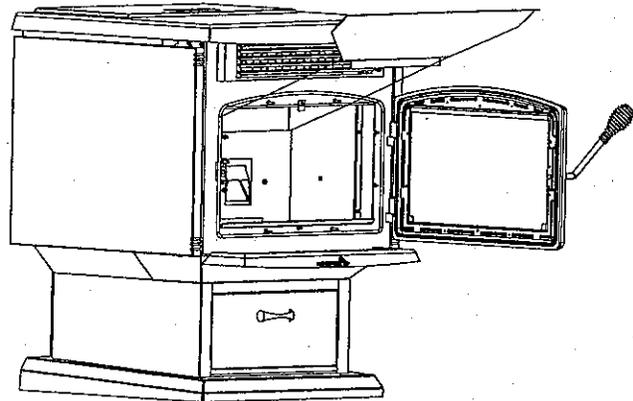

FIGURE 18
- c. With the door closed, clean heat exchanger tubes by activating the cleaning rod back and forth from front to back. (see Cleaning section and Figure 18 & 19).